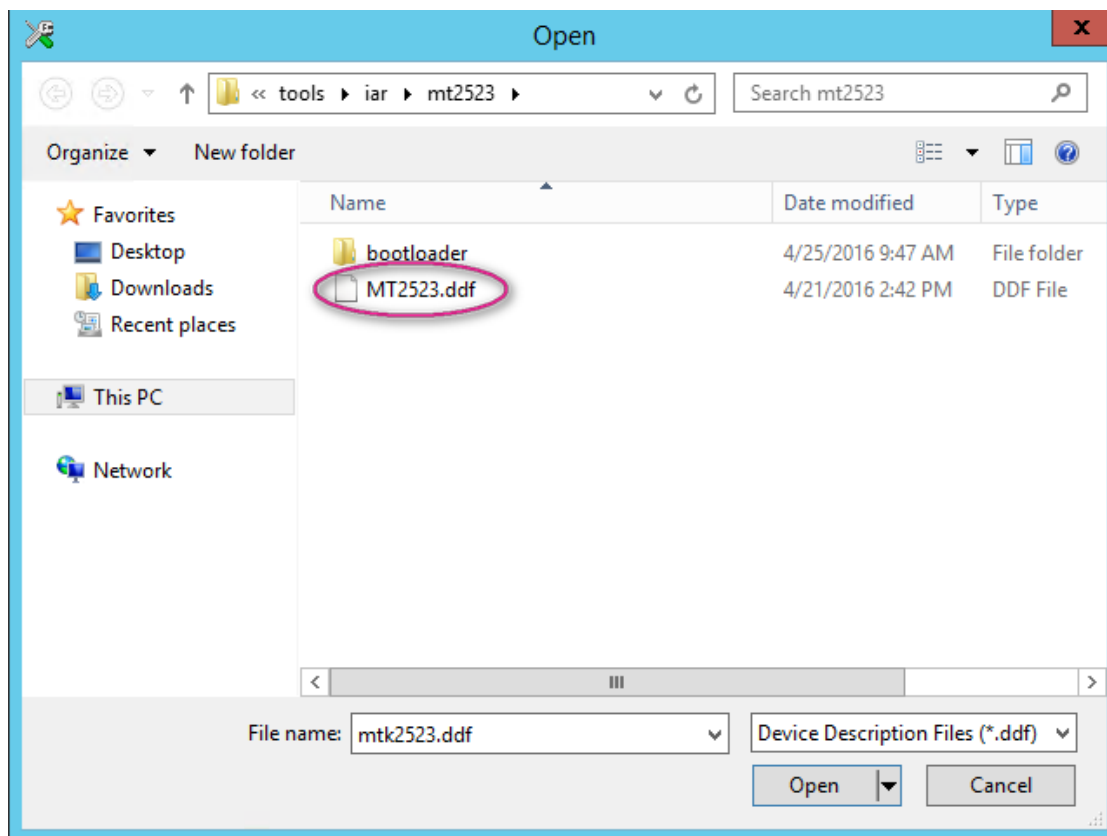

Figure 65. Open the MT2523.ddf file
- b) Set the **Device description file** to MT2523.ddf located under <sdk_root>\tools\iar\mt2523, as shown in Figure 65.